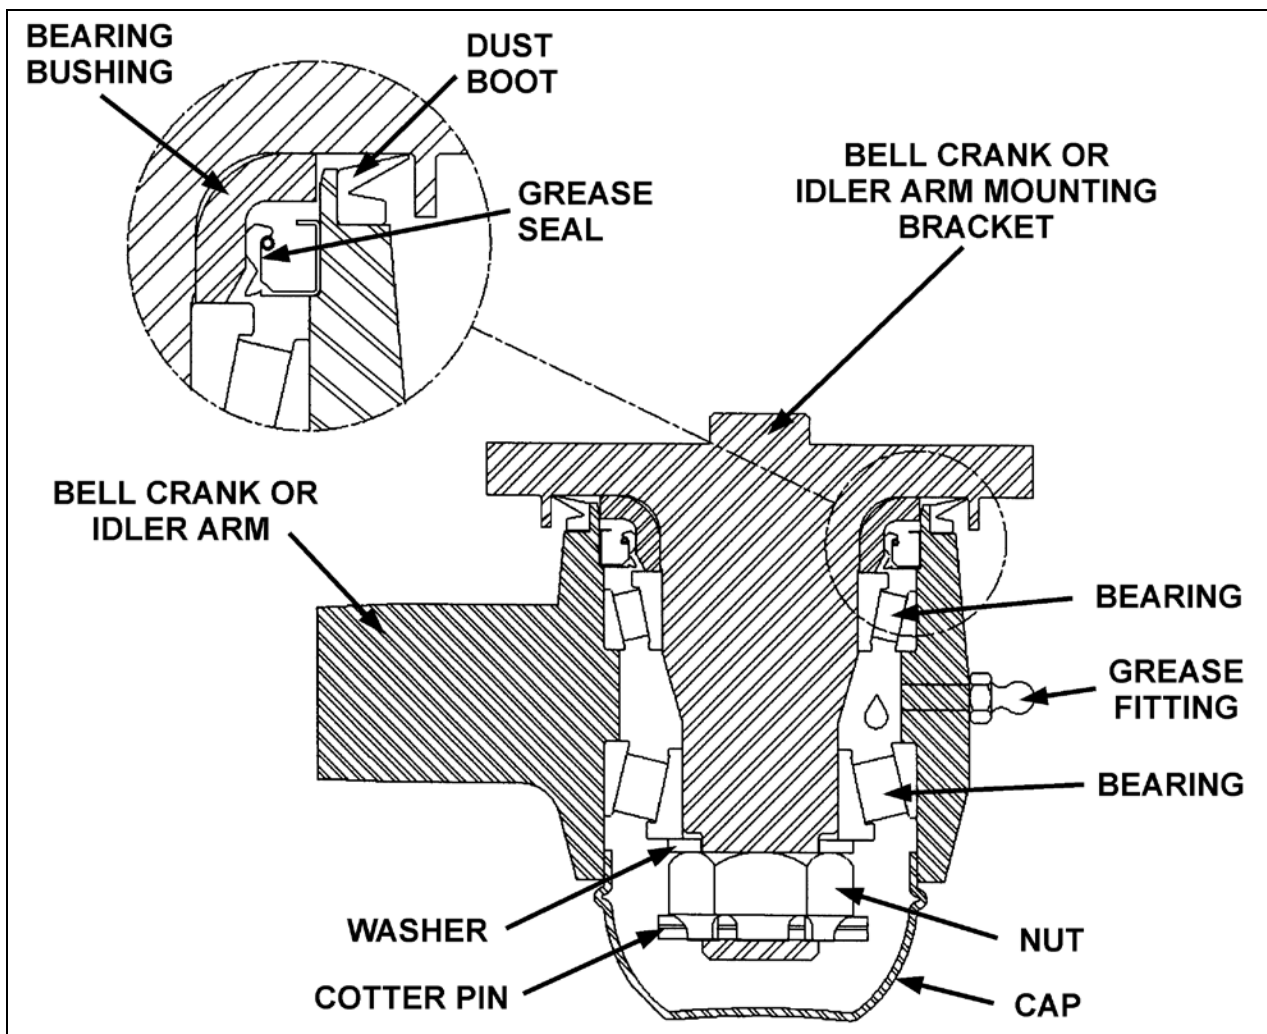

FIGURE 23: BELL CRANK AND IDLER ARM BALL JOINT
2. Install bearing and grease seal in bell crank or idler arm eye (Fig. 23).
Install grease seal according to figure 23. Grease must be able to exit the bell crank or idler arm mechanism. For grease seal installation use tool Prevost # 110683.
3. Install bell crank or idler arm on its mounting bracket stud (Fig. 23).
Bend cotter pin around the nut (Fig. 23). Do not bend the cotter pin in the direction of the cap, because it may interfere with the cap.